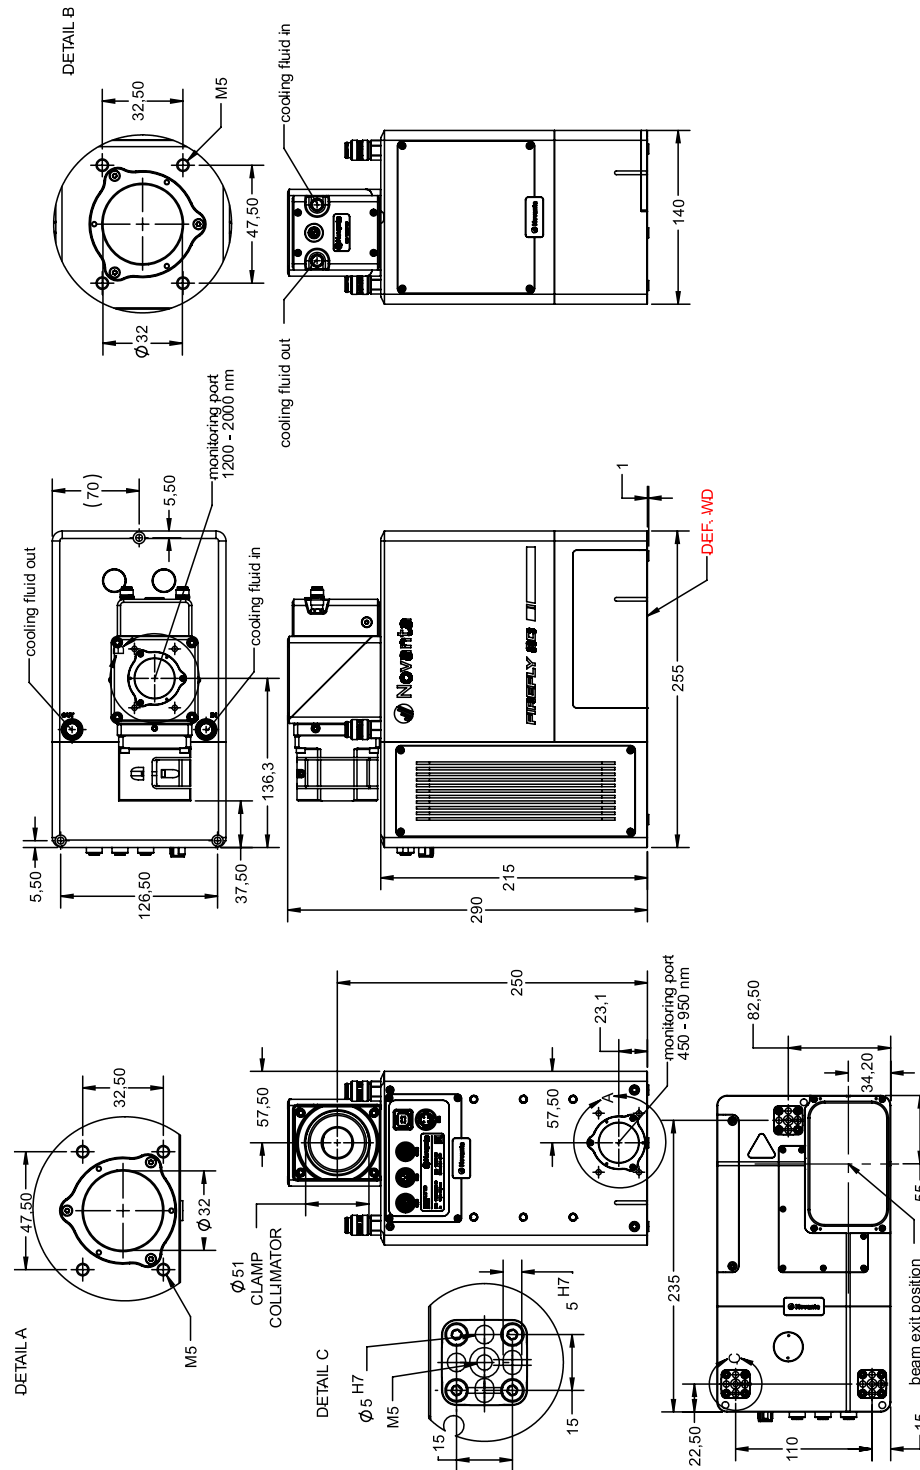

Figure 3: Dimensions in millimeter and mounting for D51 collimator clamp
- ☐ Machine bolts suitable for mounting the scan head in the laser unit; see Figure 3 on page 27.
| Dimensions with D51 collimator clamp | See <a href="#">Figure 3</a> on page <a href="#">27</a> |
- To mount the scan head on its place in the laser unit, use the 3-point mounting as indicated in Figure 3 on page 27.